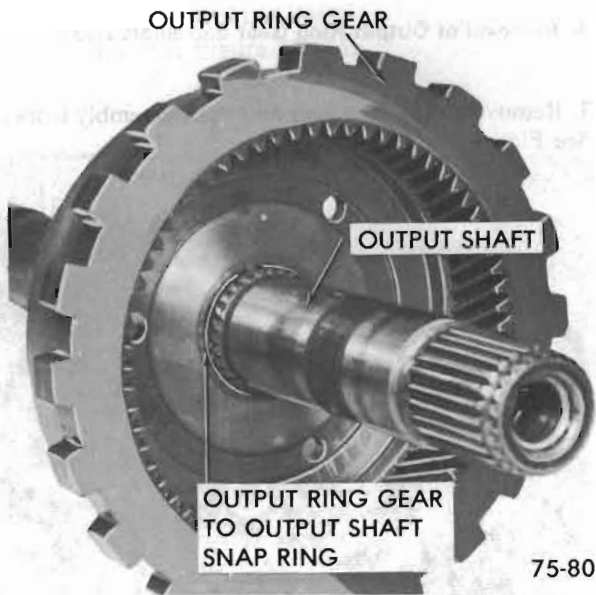

Figure 75-113
3. Remove output ring gear to output shaft snap ring and *discard*. Remove output ring gear from output shaft. See Figure 75-113.